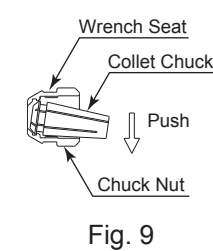
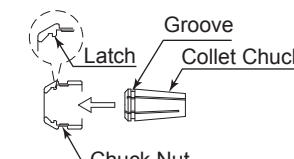
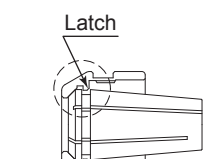

Fig. 9
Fig. 10
Fig. 11
- The collet chuck and chuck nut are secured by a groove in the collet chuck and a flange in the chuck nut. To remove the collet chuck hold the chuck nut in one hand and push diagonally down on the collet chuck. The collet chuck should be released (Fig. 9).
- To install the collet chuck, hold the collet chuck at a slight angle, and insert it into the chuck nut (Fig. 10). Press the collet chuck in the chuck nut by positioning the collet chuck in the chuck nut and pressing down on flat surface (Fig. 9). Be sure to fully engage the latch inside the chuck nut into the groove on the collet chucks outer circumference area (Fig. 11).